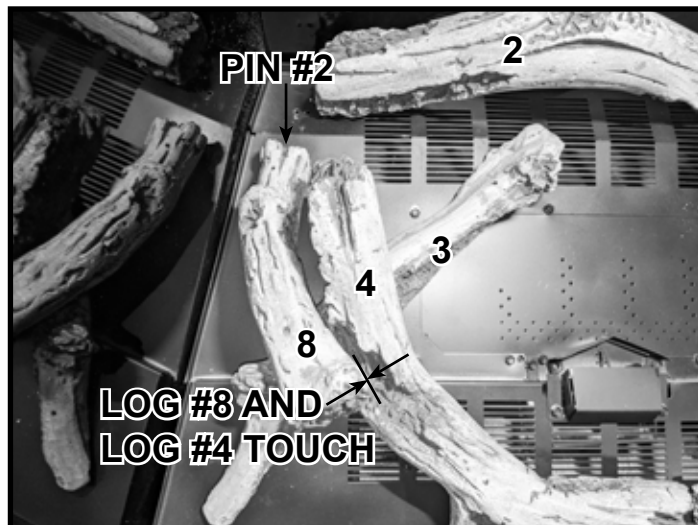

Figure 13 Place Log #8
**Log #8:** Place Log #8 as shown in Figure 13. The small end rests against Pin #2.